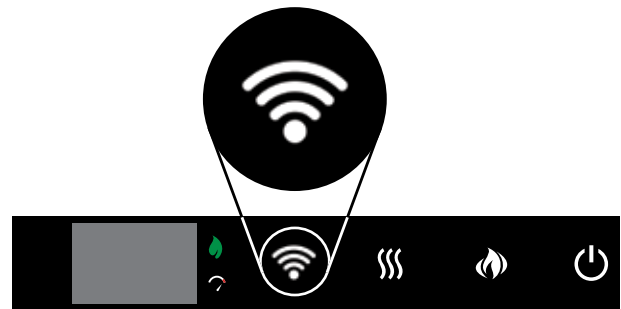

Fig. 2
2. Press and hold the Wi-Fi control button on the appliance control panel for 8 seconds. (**Fig. 2**).